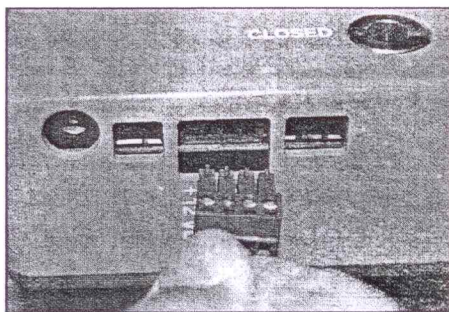

Figure 12
8. Insert the green circuit board connector into the Control Unit. **Figure 12**